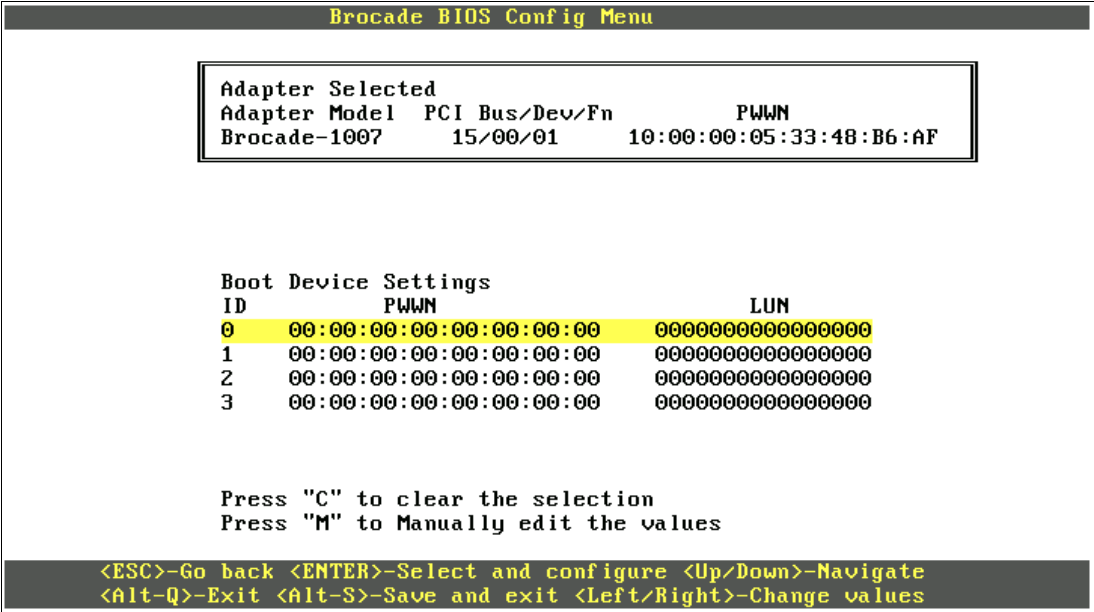

Figure 9-208 Highlighting boot ID 0
- b. In the Boot Device Settings panel (Figure 9-208), highlight **boot ID 0** and press Enter.